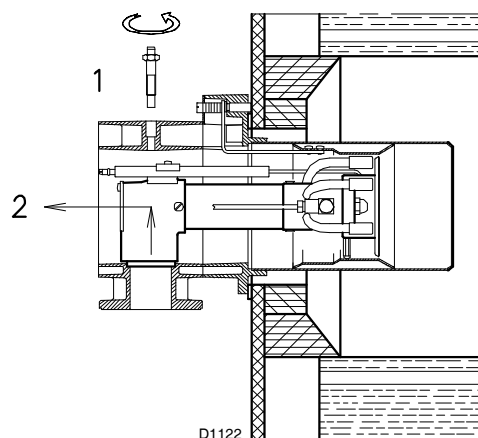

Fig. 11
- Remove screw 1)(Fig. 11) and extract the internal part 2).